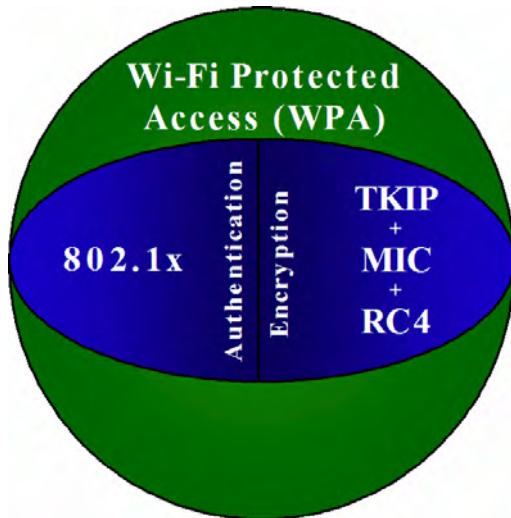

FIG. 91 WPA Overview
- To resolve problems with WEP, the Wi-Fi Alliance released WPA (FIG. 91), which integrated **802.1x**, **TKIP** and **MIC**. Within the WPA specifications, the RC4 cipher engine was maintained from WEP. RC4 is widely used in SSL (Secure Socket Layer) to protect internet traffic.